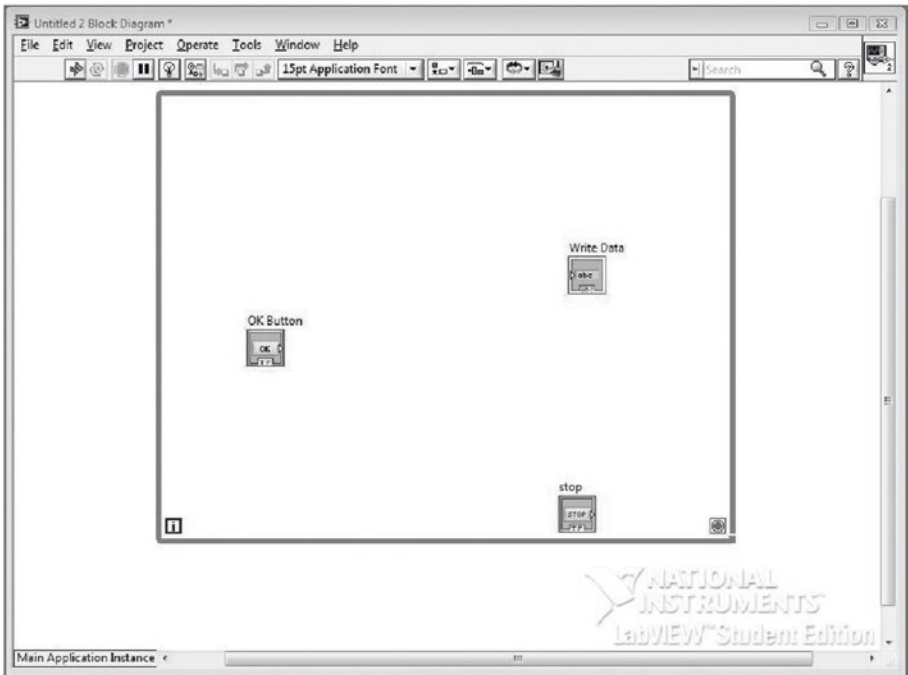

Figure 10-22. Add a While Loop to the Block Diagram
2. First, go to the Functions Palette ► Programming ► Structures ► While Loop, and drag the While Loop onto the Block Diagram. Figure 10-22 shows this process.